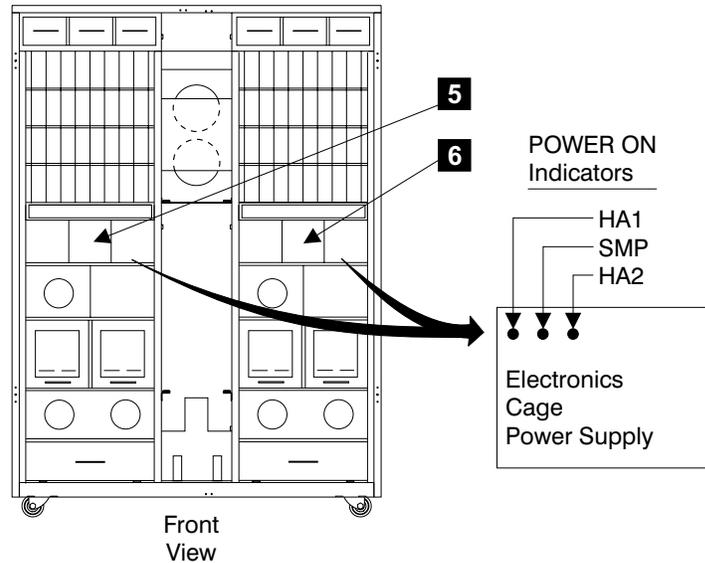

Figure 240. Electronics Cage Power Supply Indicators (S008028m)
- ___ 20. Observe the three POWER ON indicators **5** [Figure 240], on the front of each of the three left electronics cage power supplies. Perform the action described in Table 20:
- ___ 22. Observe the three POWER ON indicators **6** [Figure 240], on the front of each of the three right electronics cage power supplies. Perform the action described in Table 21 on page 233: